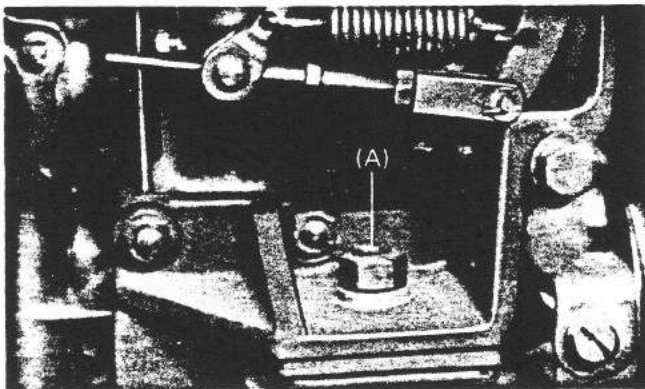

Fig. 9 Nut (A) Position
- Now the clutch housing and the engine body are removed, however, if the chassis is not completely pulled off the clutch housing, loosen the nuts (A) at both sides shown in Fig. 9.